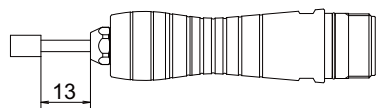

Fig. 1
- ① The Attachment is designed for hand use. Never install this Attachment or any hand tool on a machine such as a special purpose machine, NC lathe or mill.
- ② Do not touch the cutting tool while it is rotating. It is very dangerous.
- ③ Always wear safety glasses, dust mask and hearing protection.
- ④ When installing a cutting tool, tighten the collet chuck correctly and recheck the collet chuck and chuck nut before use. Do not over tighten the collet chuck. This may cause damage to the spindle.
- ⑤ Do not use grindstones with an outside diameter over  $\phi 15\text{mm}$ .
- ⑥ Do not exceed 13mm of overhang for mounted grindstones as shown in Fig. 1.